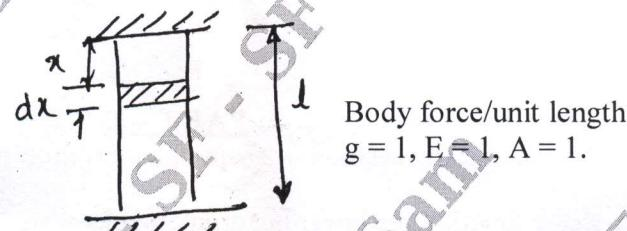

Fig Q2(a)
- 2 a. Use Rayleigh Ritz method to find the displacement at the midpoint of the rod shown in the Fig Q2(a).